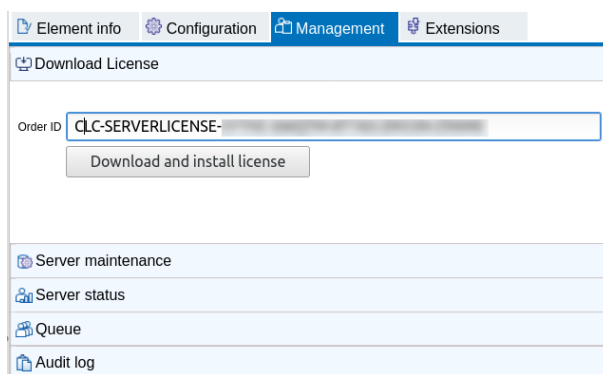

Figure 11.1: License management is done under the Management tab.
CLC Server status and management functionality is provided under the **Management**  tab (figure 11.1). This chapter describes functionality for downloading licenses, putting the server into maintenance mode, stopping and restarting the server, and related activities.
- Enter the Order ID supplied by QIAGEN into the Order ID field and click on the "Download and Install License..." button (figure 11.1).